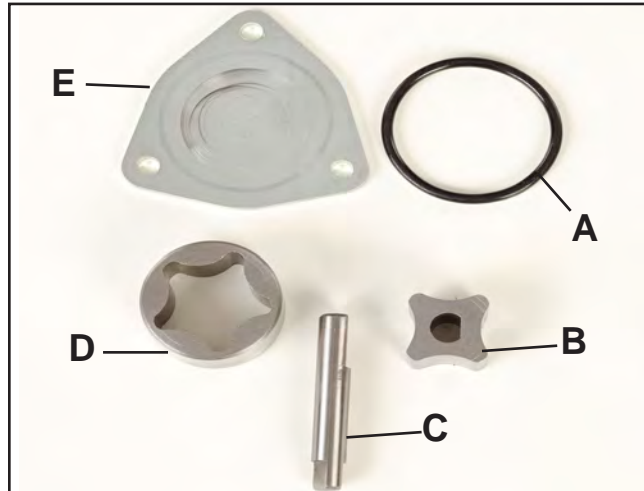

Figure 17
1. Install the oil pump shaft (double “D” end into the end of camshaft) (Figure 17).